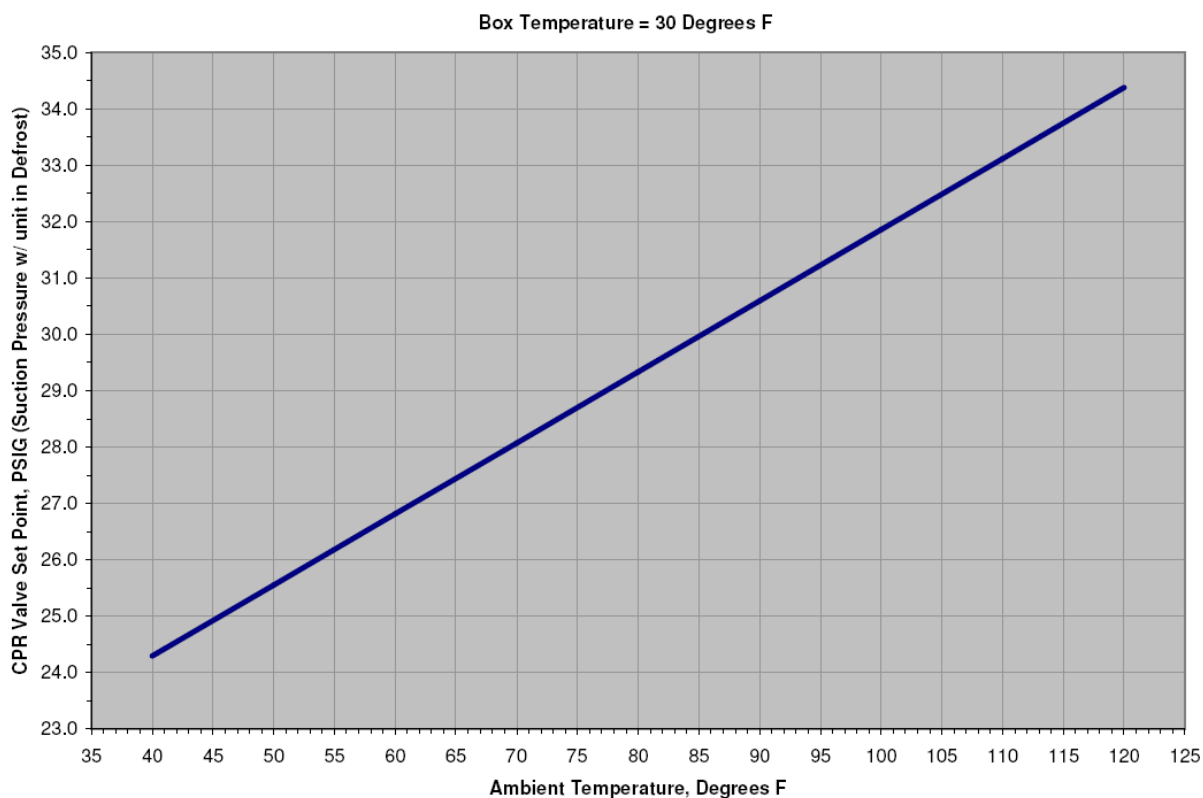

Figure 3-2. CPR Valve Pressure Setpoint Chart.
- (1) Reduce the box temperature to 25-30 °F.
- (2) Determine the ambient temperature.
- (3) Using the chart in figure 3-2, determine the CPR pressure based on the ambient temperature.
- (4) Set the valve to the appropriate pressure.
- (1) Install a gauge manifold.
- (2) Set the thermostat to 30 °F.
- (3) Run the unit in cool until the box temperature is at 30 °F.
- (4) Press the manual defrost key to place the unit in defrost.
- (5) Monitor the suction pressure and compare it to the suction pressure for the current ambient temperature as shown on the chart in figure 3-2.
- (6) If the suction pressure differs from what is shown in the chart, remove the protective cap from the CPR valve and turn the adjuster as necessary to obtain the suction pressure shown in the chart.
- (7) Take the unit out of defrost and repeat steps 3 through 5 to recheck the suction pressure and readjust the CPR valve if necessary. Reinstall the protective cap when finished.
- (8) Remove the gauge manifold set.